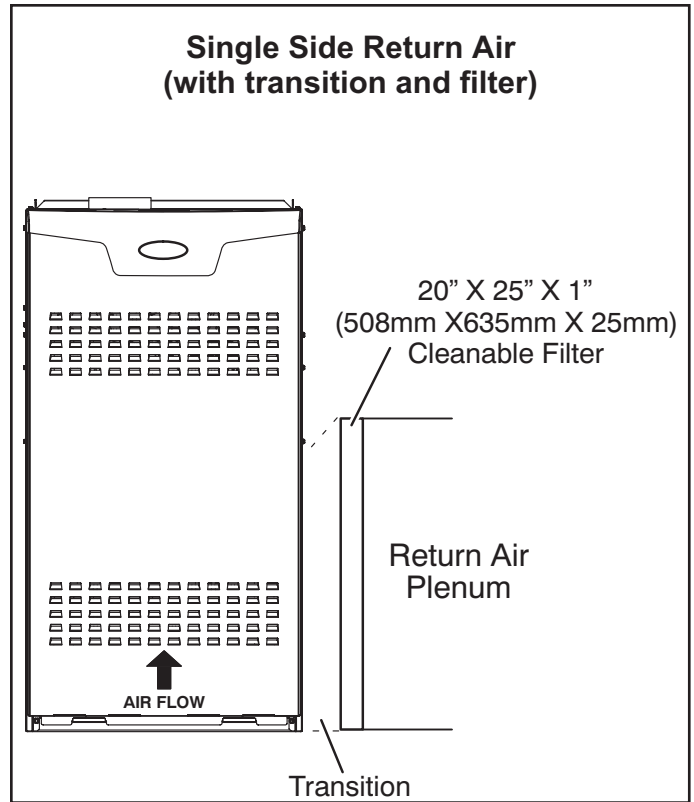

FIGURE 9
- 1 -Single side return air and Optional Return Air Base with transition that must accommodate required 20 x 25 x 1 inch (508 x 635 x 25 mm) air filter to maintain proper velocity. See FIGURE 9.